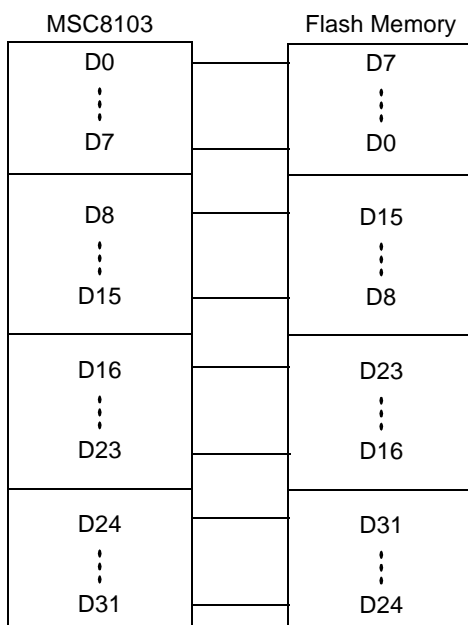

Figure 3. MSC8103 to Flash Memory Byte Lane Reversal
- *Flash memory devices.* The data lines of most Flash memory devices connect to the MSC8103 device with byte lanes bit-reversed for programming algorithm purposes. **Figure 3** shows a 32-bit example.